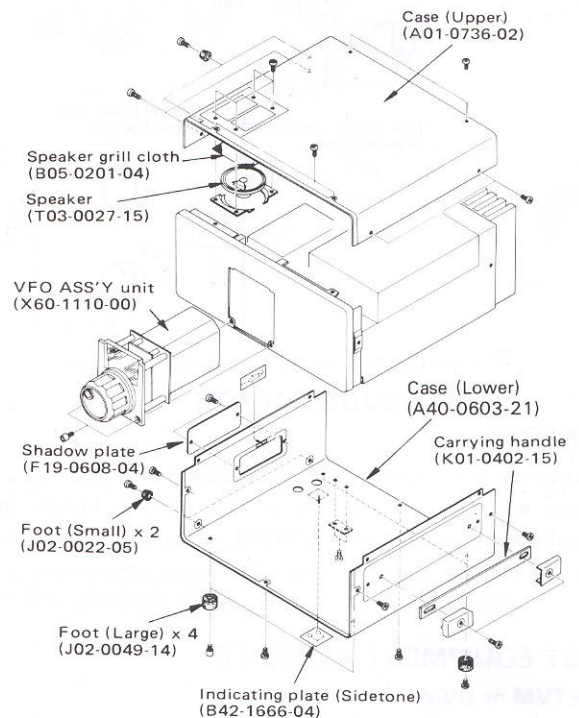

Fig. 36 Case disassembly
1. Remove the upper and lower cases as shown at right (Figure 36).